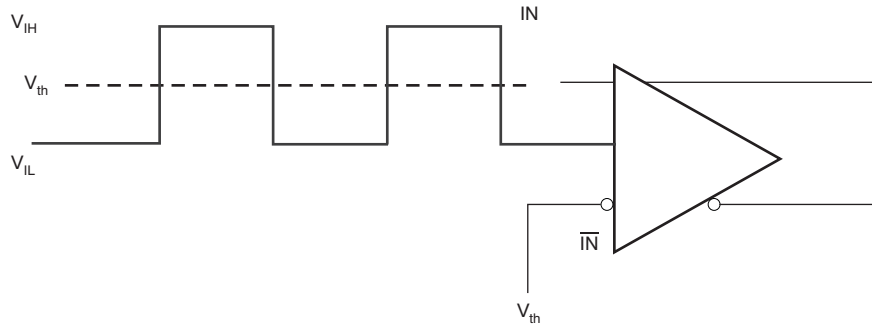
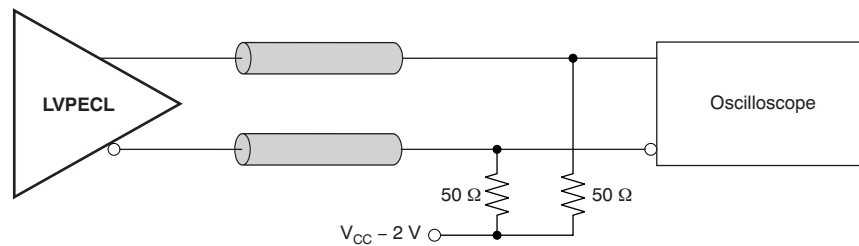
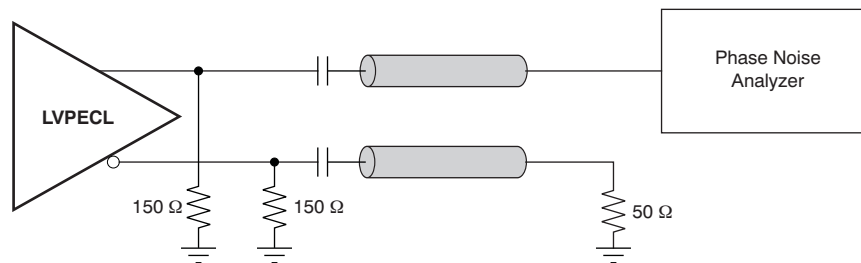

Figure 3. DC-Coupled LVCMOS Input During Device Test
Figure 8. LVPECL Output DC Configuration During Device Test
Figure 9. LVPECL Output AC Configuration During Device Test
(1) Figure 8 and Figure 9 show dc and ac test setup.(2) Internally generated bias voltage ( $V_{AC, REF}$ ) is for 3.3-V operation only. It is recommended to apply externally generated bias voltage for  $V_{CC} < 3.0\text{ V}$ .
(1) Figure 8 and Figure 9 show dc and ac test setup.
This section describes the function of each block for the CDCLVP2106. Figure 3 through Figure 9 illustrate how the device should be setup for a variety of test configurations.